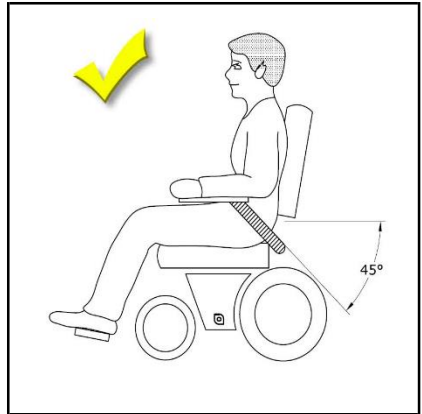

Figure 4.18: Right position hip belt
**Check that the hip belt is correctly adapted to the wheelchair user. The belt should lie firmly over the hip at an angle of approx. 45° (fig 4.18). Placing the belt over the hip, against the soft skin of the stomach, can result in the wrong sitting position and the user sliding forward in the wheelchair.**